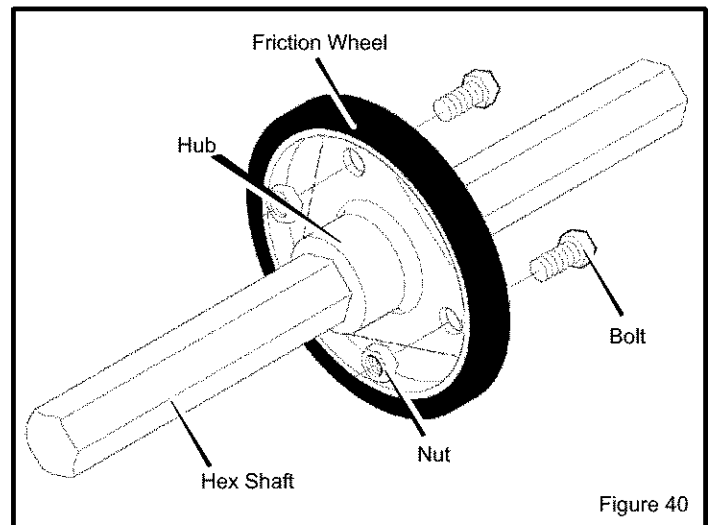

Figure 40
9. Position new friction wheel onto hub (see Figure 40). Install bearing plates to original position. Ensure hex shaft is engaged with both bearing plates.